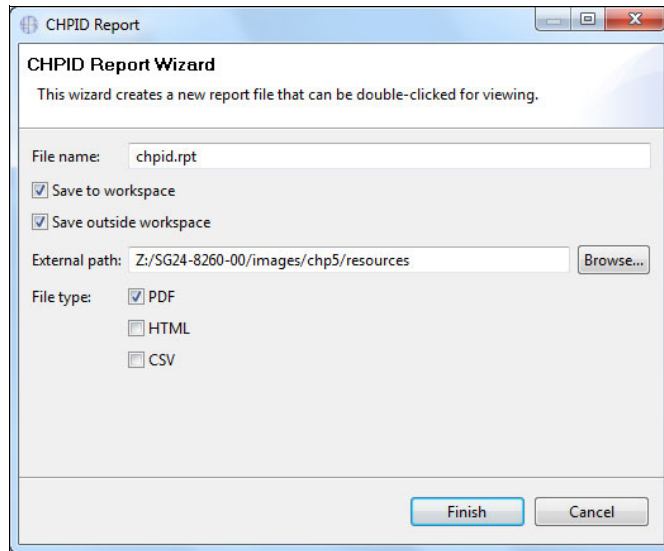

Figure 6-101 CMT - Save CHPID Report
2. Click **Save Report**. In the example, when you click **CHPID Report**, an option window opens (Figure 6-101). Specify a file name and an external path (location) of where to save the file. If you want to save the report in HTML, select **HTML**; the tool selects **PDF** by default. The window is similar for all type of reports. Click **Finish**.